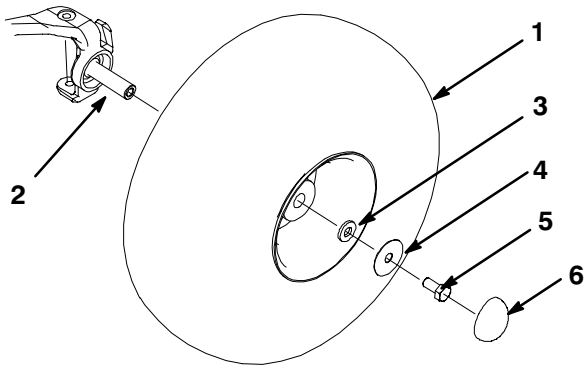

Figure 2
4. Mount the wheels with the previously removed fasteners (Fig. 2) and torque the bolts to 135-165 ft-lb.